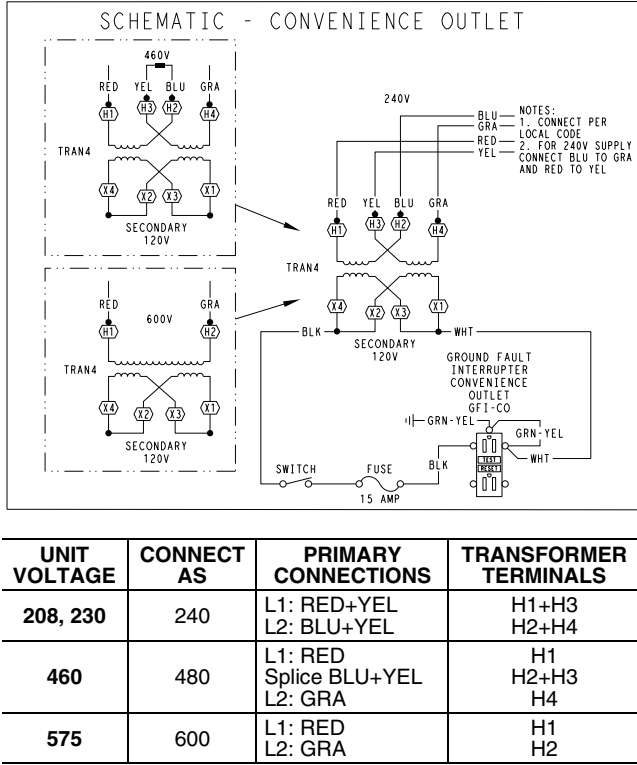

Fig. 51 — Powered Convenience Outlet Wiring
The primary leads to the convenience outlet transformer are not factory-connected. Selection of primary power source is a customer-option. If local codes permit, the transformer primary leads can be connected at the line-side terminals on the unit-mounted non-fused disconnect switch; this will provide service power to the unit when the unit disconnect switch is open. Other connection methods will result in the convenience outlet circuit being de-energized when the unit disconnect switch is open. See Fig. 51. On a unit without a unit-mounted disconnect, connect the source leads to the main terminal block (TB1 for sizes 089-150, TB3 for size 180).
2. Install power lines to terminal connections as shown in Fig. 51.